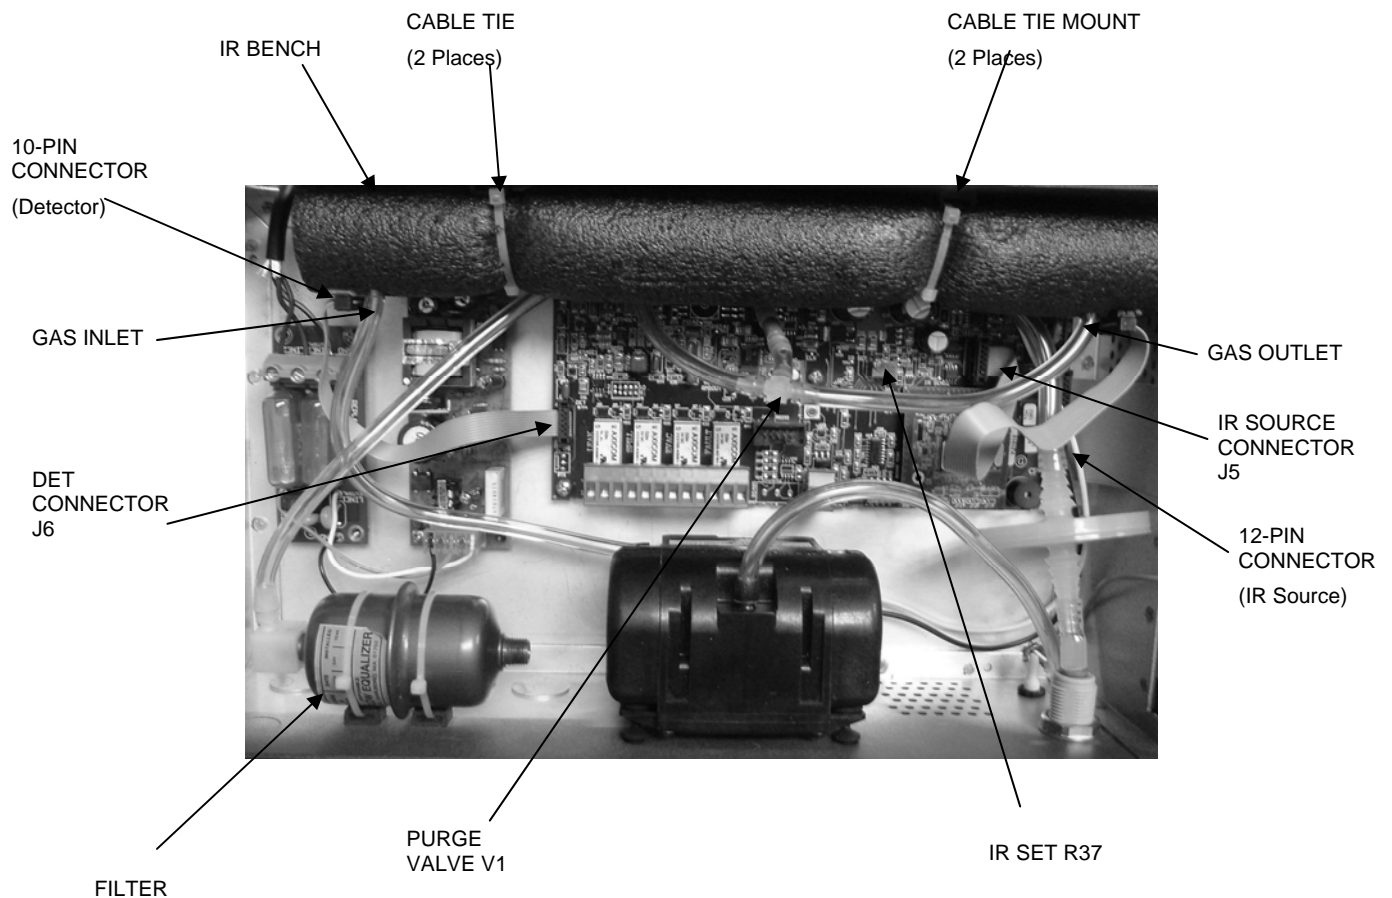

Figure 2. HGMSZ Components
3. Take time to familiarize yourself with the internal components of the HGMSZ shown in Figure 2.
2. Refer to Figure 2 to perform the following steps to remove the old IR bench: